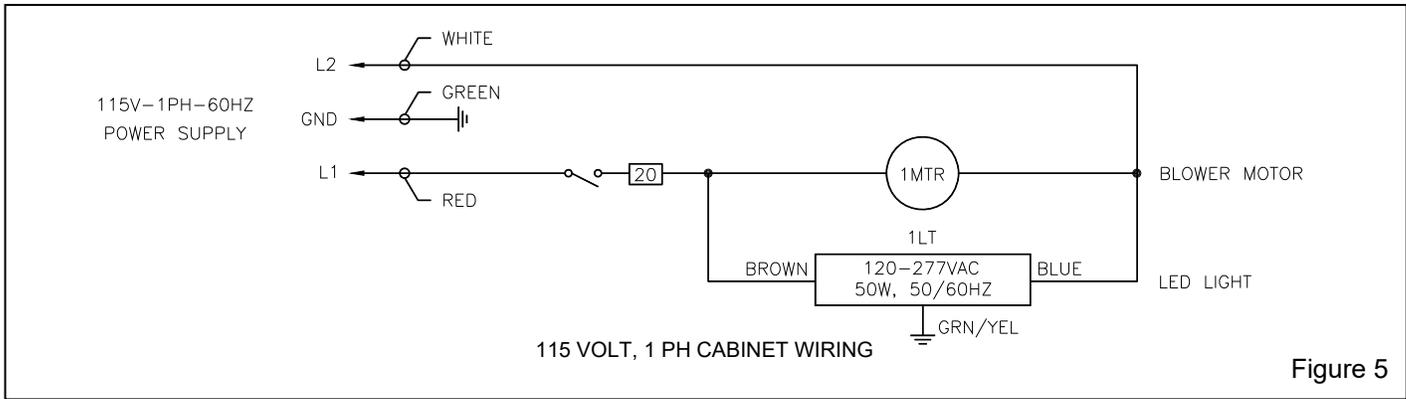

Figure 5
**2.4.1.1** Standard Pulsar cabinets are 120-volt single phase. Power is supplied by a U-ground plug; plug it into a 120-volt outlet. No additional wiring is needed; the wiring schematic shown in Figure 5 is for reference.